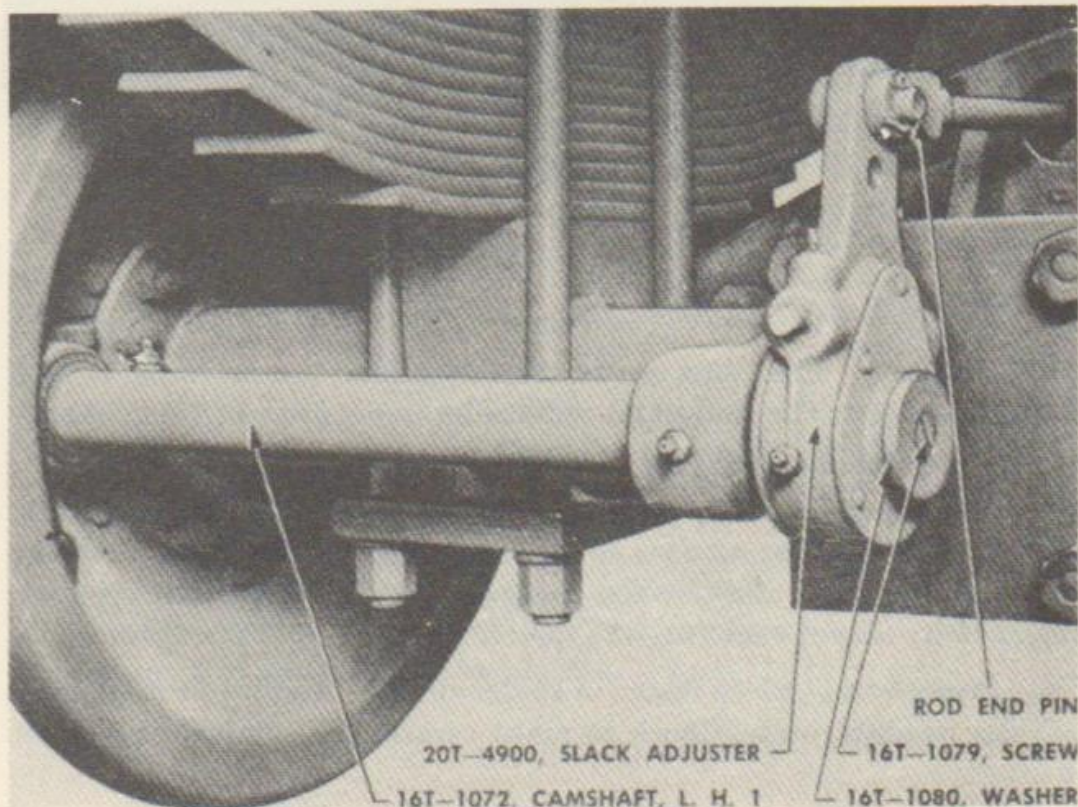

FIGURE 44. DOLLY SLACK ADJUSTER
(1) **REMOVAL** (fig. 44)—Remove cotter pin from rod end pin and tap out rod end pin. Remove screw and washer from end of camshaft. Drive slack adjuster off camshaft.